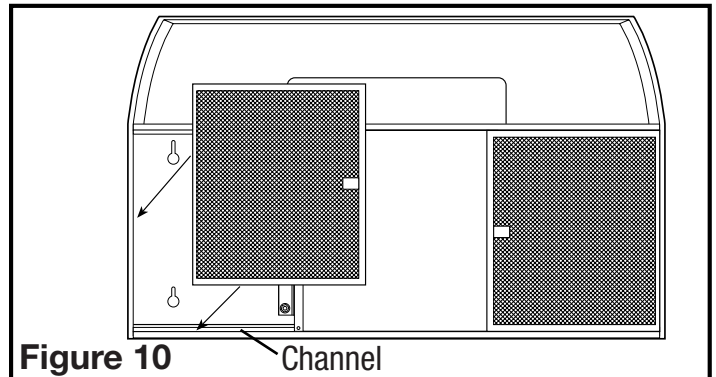

Figure 10
2. Reinstall the filters by fitting them into the channel on either side of the hood and pushing upwards on them until they are secured in place (Figure 10).